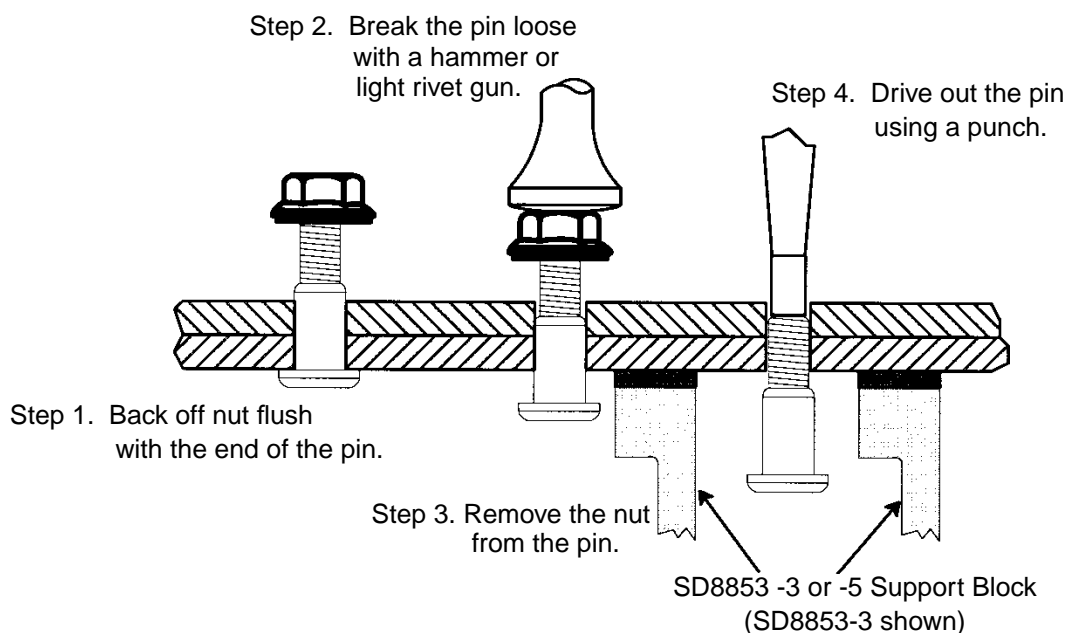

Figure 14 - Removal of Installed Fasteners - Back Off Method
5.10 Removal of Installed Fasteners (see Figure 14)